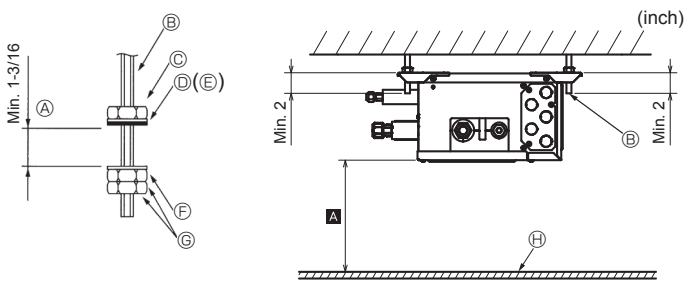

Fig. 6-1
- (2) Fit the washers (①, ②) and nuts (procure locally) to the suspension bolts. (Fig. 6-1)
- (3) Hang the unit on the suspension bolts.
- (4) Fully tighten the nuts (check ceiling height).
- (5) Use a level to adjust the branch box to the horizontal.
- Ⓓ Washer (with cushion) ①
- Ⓕ Washer (without cushion) ②